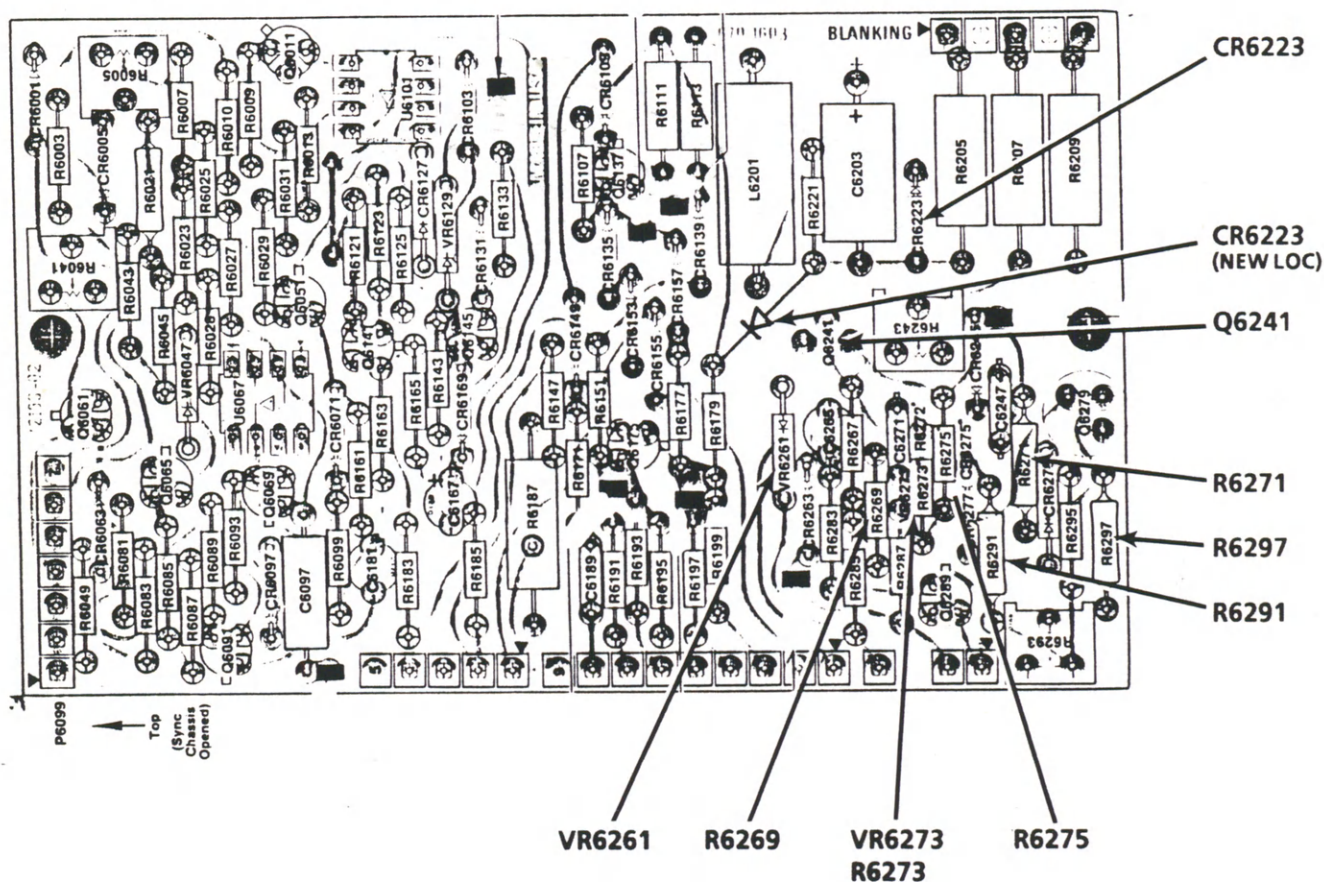
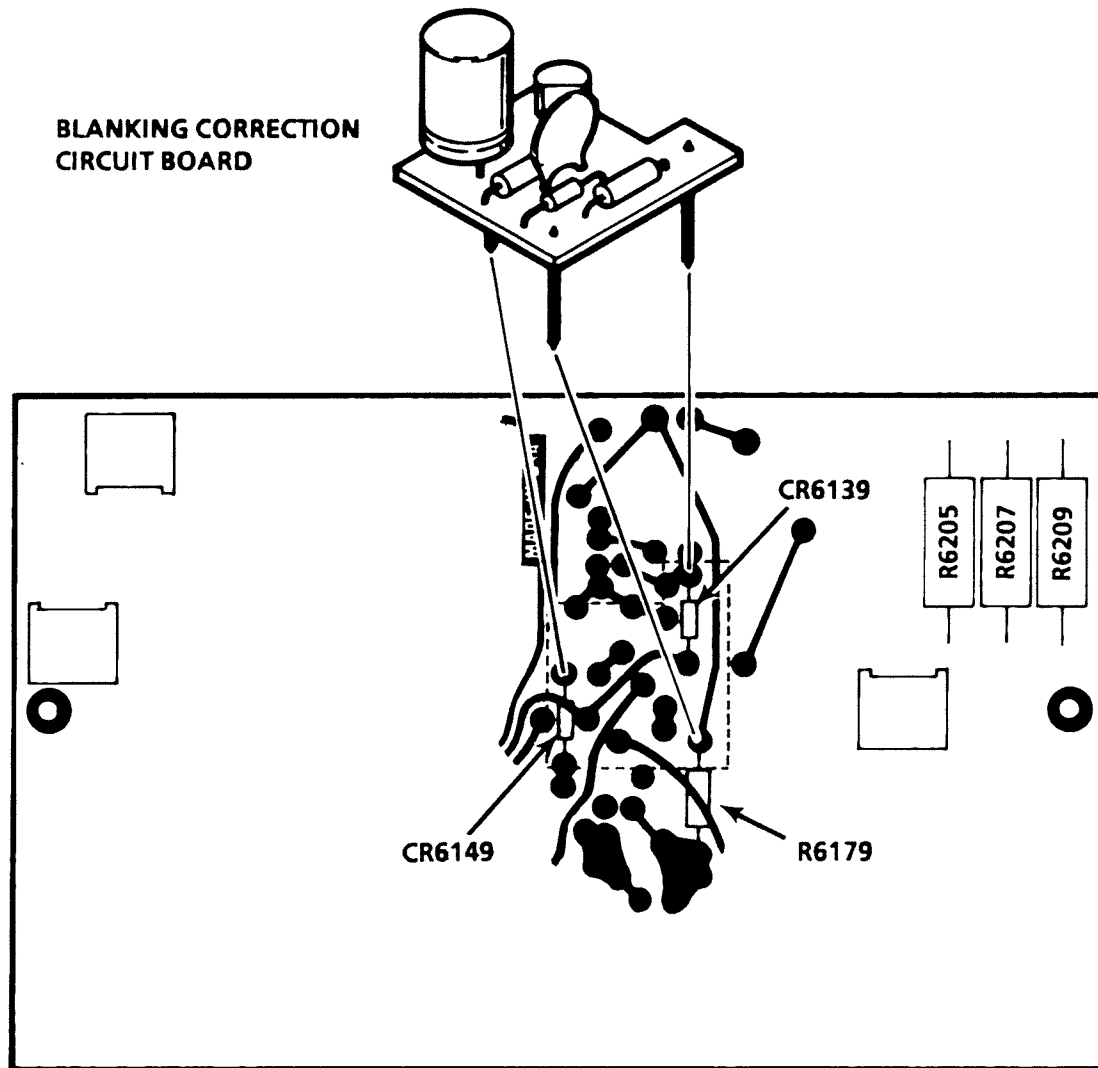

Fig. 2. Partial Blanking circuit board showing component changes.
Fig. 3. Illustration showing orientation of Blanking Correction circuit board on the Blanking circuit board.
Make the following changes on the Blanking circuit board (670-1603-04 and below). Refer to Fig. 2, Fig. 3 and the schematic located in the Manual Modification Insert.
- ☒ 2. Install the new CR6223, provided in the kit, in the new location shown in Fig. 2.
- ☒ 11. Install the Blanking Correction circuit board, provided in the kit, as shown in Fig. 3. Solder the interconnecting square pins to the solder pads as indicated. The dotted outline on the Blanking circuit board shows the installed position of the new Blanking Correction circuit board.